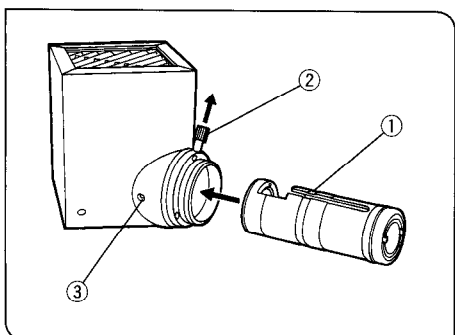

Fig. 7
1. Align the collector lens positioning groove ① with the pin inside the lamp housing, pull up the collector lens focusing knob ②, and slide the collector lens into the lamp housing as far as it will go. Then, return the collector lens focusing knob ② to its original position. At this point, check that the collector lens can be moved back and forth by turning the focusing knob ②. If not, adjust the position of the collector lens by hand so that it will click into its proper position.
2. Tighten the collector lens retaining screw ③. (Fig. 7)